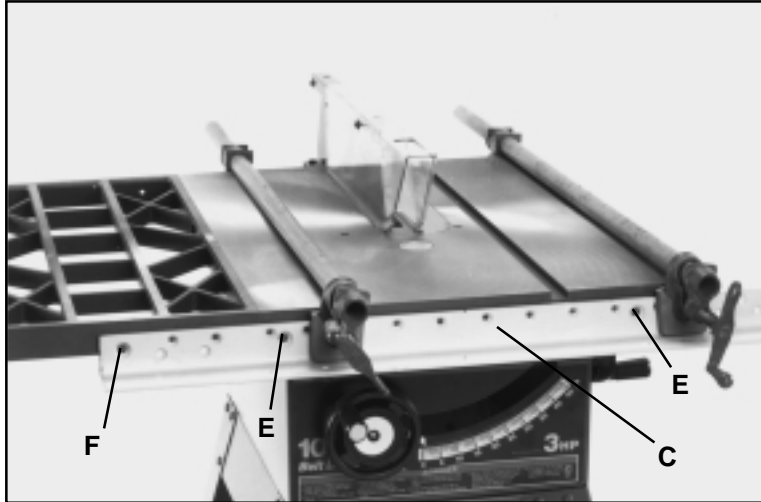

Fig. 6
2. Align the two holes (E) Fig. 6, in the front rail (C) with the two through holes in the saw table and fasten the rail (C) to the table saw using the two 3/8-16 x 1-1/4" long flat head screws, flat washers, lock washers and hex nuts supplied. Do not completely tighten the mounting hardware at this time. It is not necessary to use clamps to hold the front rail to the saw table. On Delta saws that are equipped with a sheet metal left extension wing, fasten the front rail (C) to the extension wing using the remaining 3/8-16 x 1-1/4" long flat head screw, lock washer and hex nut supplied through hole (F) in the front rail